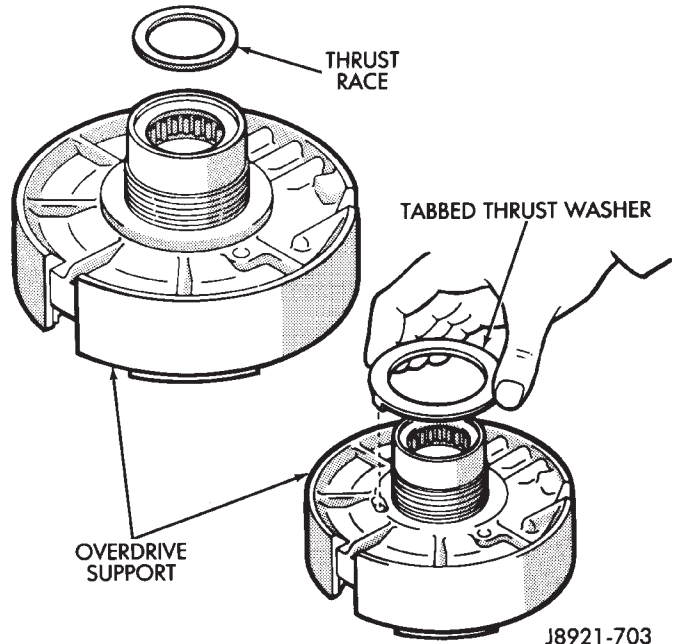

Fig. 157 Installing Overdrive Support Thrust Race And Washer
(54) Coat thrust race and tabbed washer with petroleum jelly and install them on overdrive support (Fig. 157). Verify race size. Race outer diameter is 50.9 mm (2.004 in.) and inside diameter is 36.2 mm (1.426 in.).